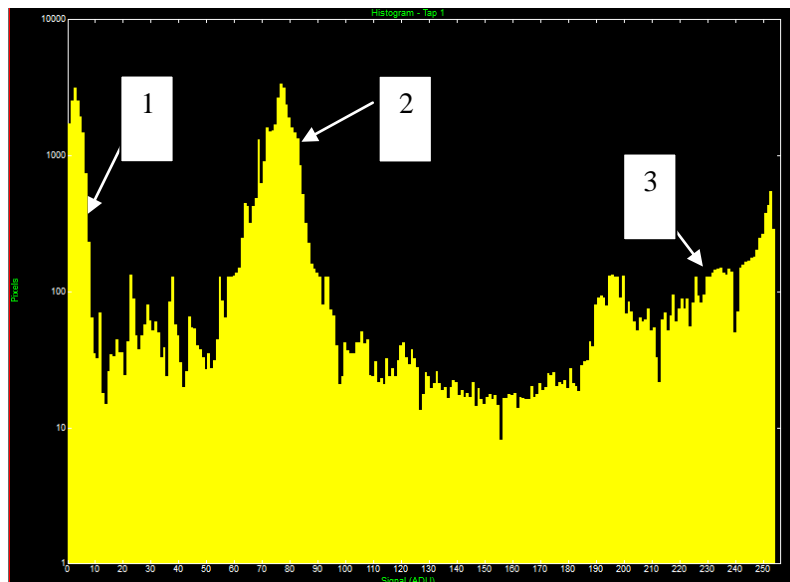

Figure 3: Linear AGC, ITT Mean: 127, Max Gain: 8
- Figure 3: Linear AGC, ITT Mean: 127, Max Gain: 8 5
Compare to Linear Histogram in Figure 3